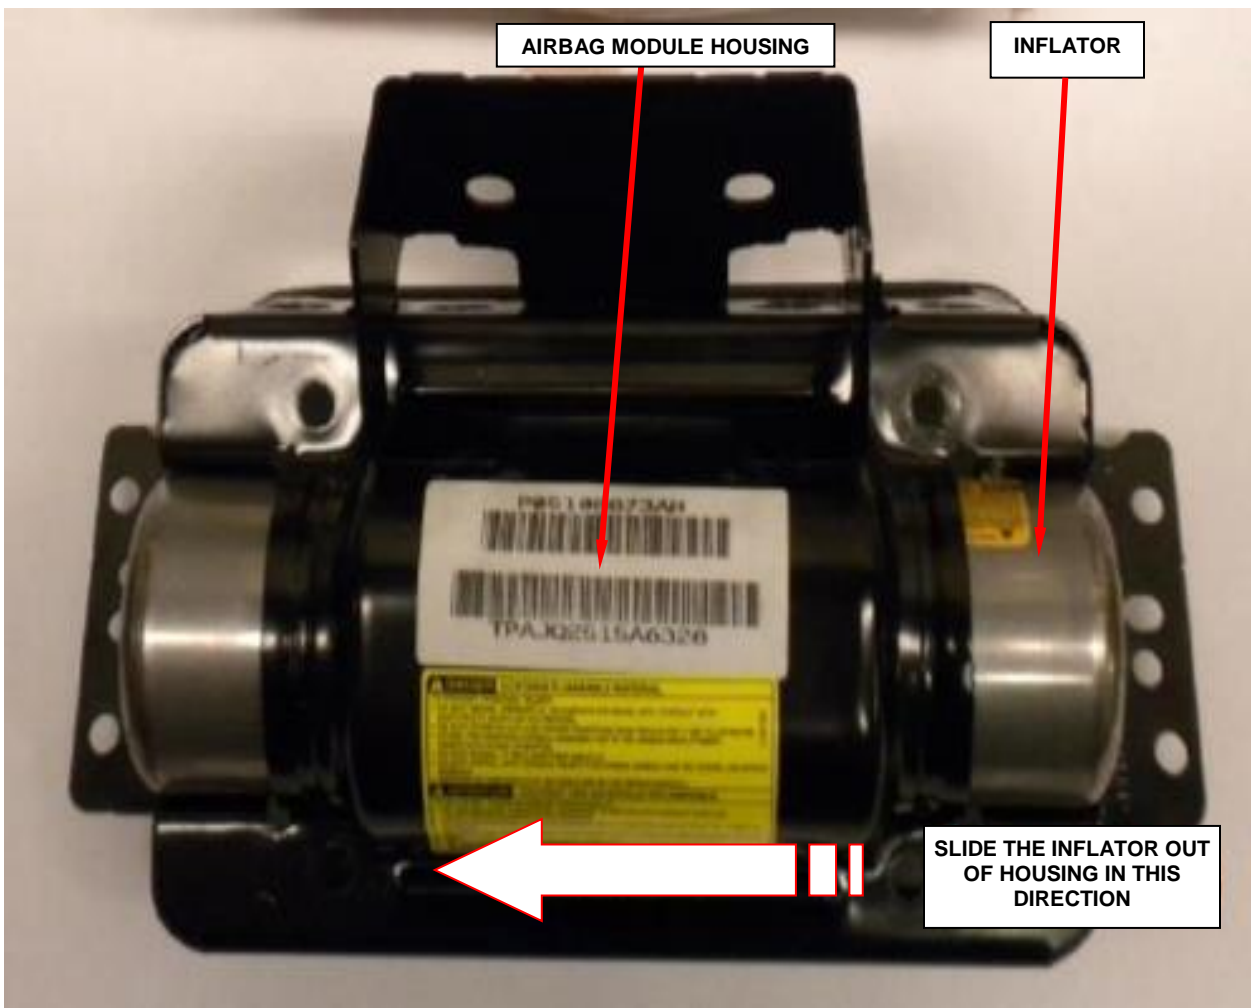

Figure 47 – Remove Airbag Inflator
- k. Slide the inflator out of the passenger airbag module housing (Figure 47).